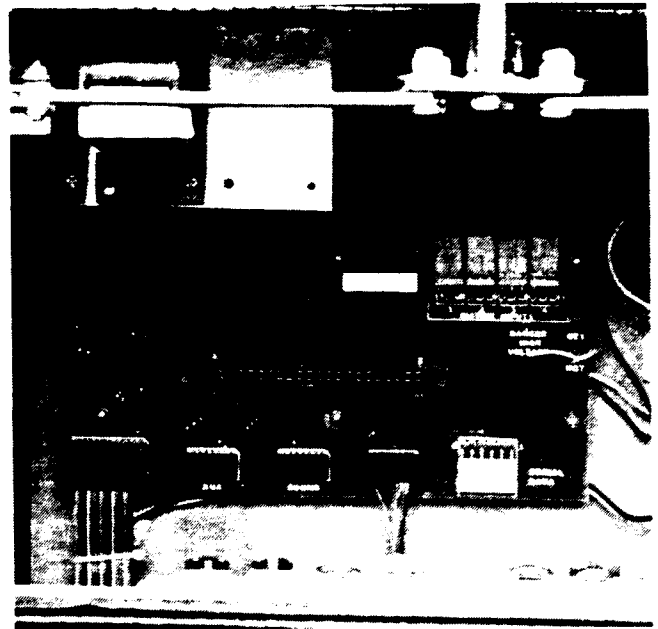

Figure 4-26
- 2) Align the edge connector on the Microprocessor board with the socket on the Mother board. See Figure 4-26.